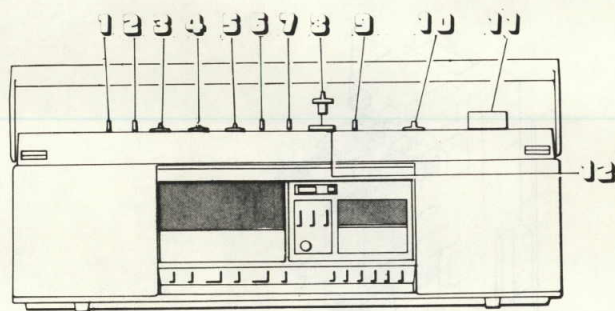

Fig. 2
- 1) Remove 12 pieces of the operation buttons and knobs. (See figure 2)